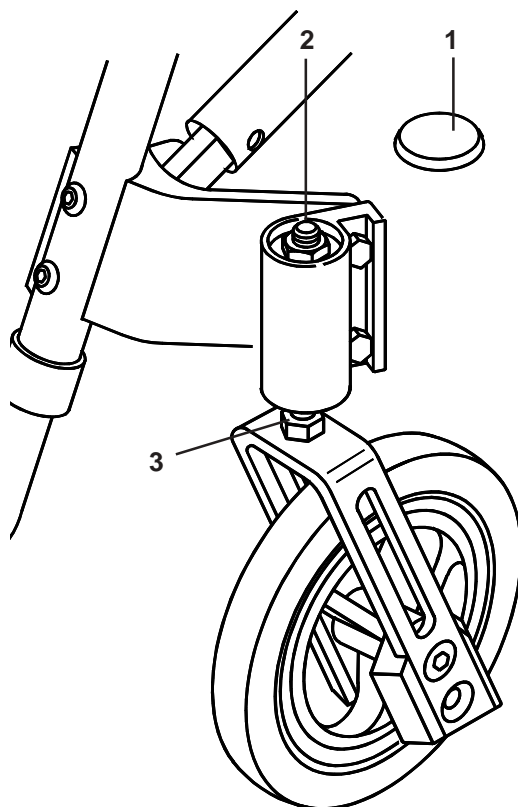

Fig. 38
To remove play from the castor stem (Fig. 38), remove the dust cover (1) by prising it off. Tighten nut (2) with a 19mm A/F socket spanner until all play is removed, yet still allows the castor stem (3) to rotate freely. Replace the dust cover by snapping it back in place.